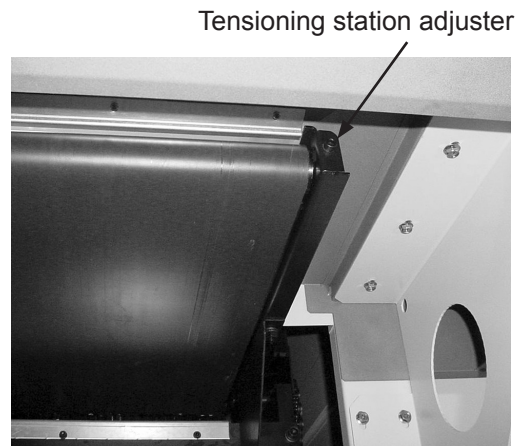

Fig. 2 Underside View of Feed Table and Infeed Conveyor
2. Remove the feed table and front panel of tensioning station (Fig. 2).